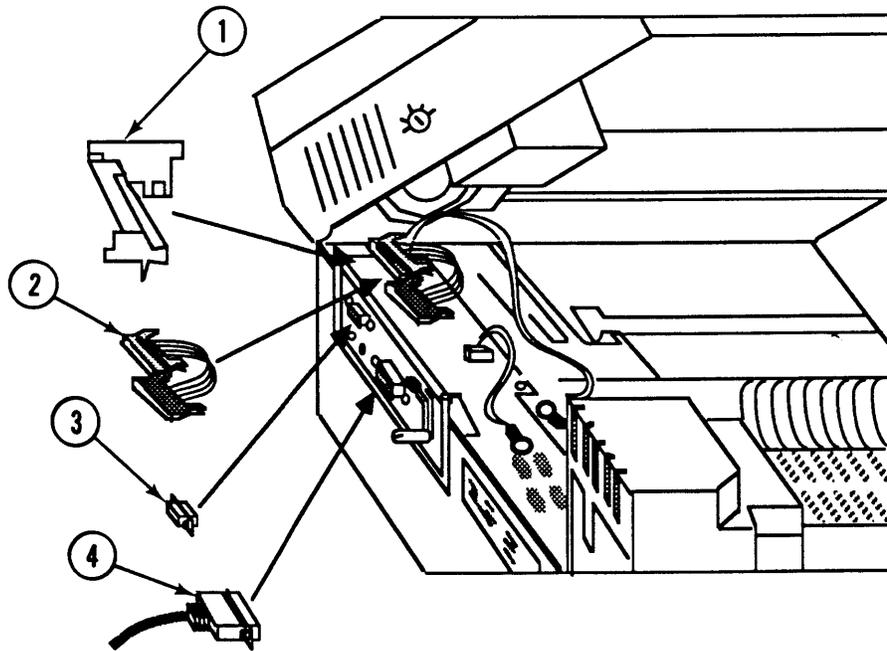

FIGURE 1
4. If a mounting connector plate cover (Figure 1, #1) is present on the LaserWriter, remove it. First remove the two right panel screws and lift off the right panel. Then remove the single screw holding the mounting connector plate cover in place.
5. Disconnect P16 from J16 on the mounting connector plate. Connect the LaserWriter service adapter cable (Figure 1, #2) between J16 on the mounting connector plate and P16 on the I/O cable, and close the LaserWriter. **As you close the LaserWriter, hold the cable to one side so that it is not crushed by the main motor assembly!**
6. Connect the DB-9 loopback plug to the DB-9 port of the LaserWriter (Figure 1, #3).
7. Connect the DB-25 end of the peripheral cable to the DB-25 port of the LaserWriter (Figure 1, #4).